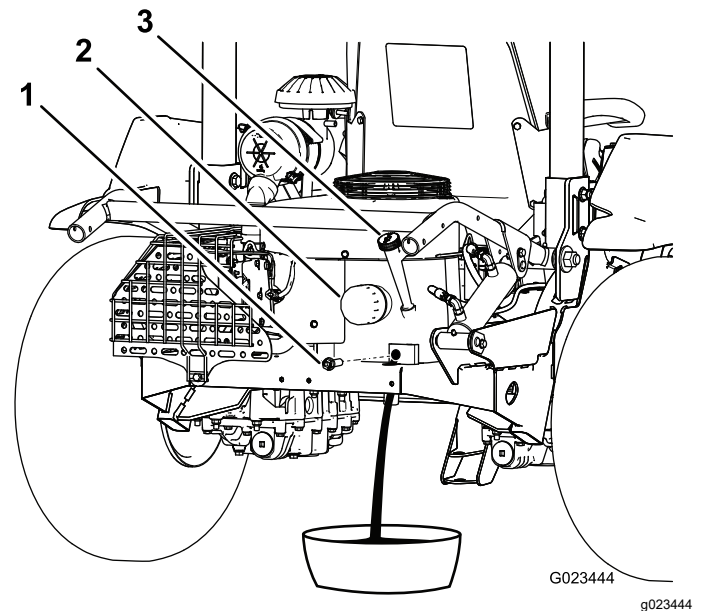

Figure 37
3. Remove the drain plug (Figure 37) and let the oil drain into a suitable container. When the oil stops draining, install the drain plug.